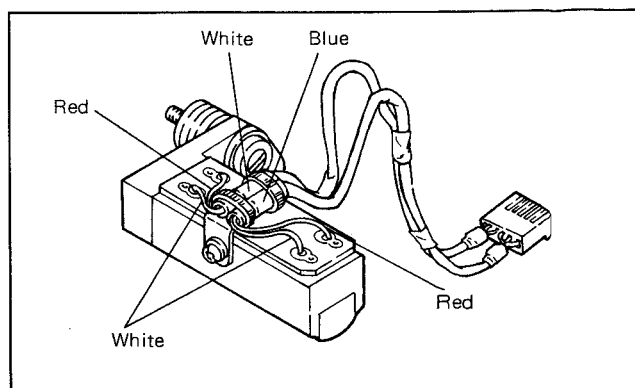

Fig. 6-2. Soldering Leads
5. Solder the harness to the head. (See Fig. 6-2.)